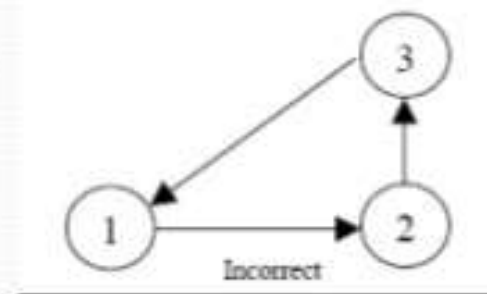

Figure 8.9: Wrong Direction of Arrows
d. The direction of arrows should flow from left to right avoiding mixing of direction as shown in Figure 8.9.